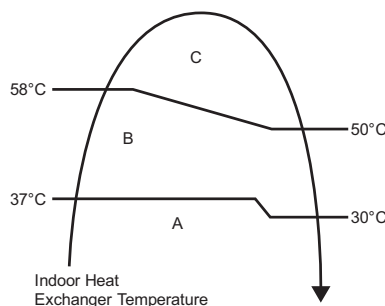

Figure 1
- Automatic vertical airflow direction can be set using remote control; the vane swings up and down within the angles as stated above. For heating mode operation, the angle of the vane depends on the indoor heat exchanger temperature as Figure 1 below. It does not swing during fan motor stop. When the air conditioner is stopped using remote control, the vane will shift to close position.